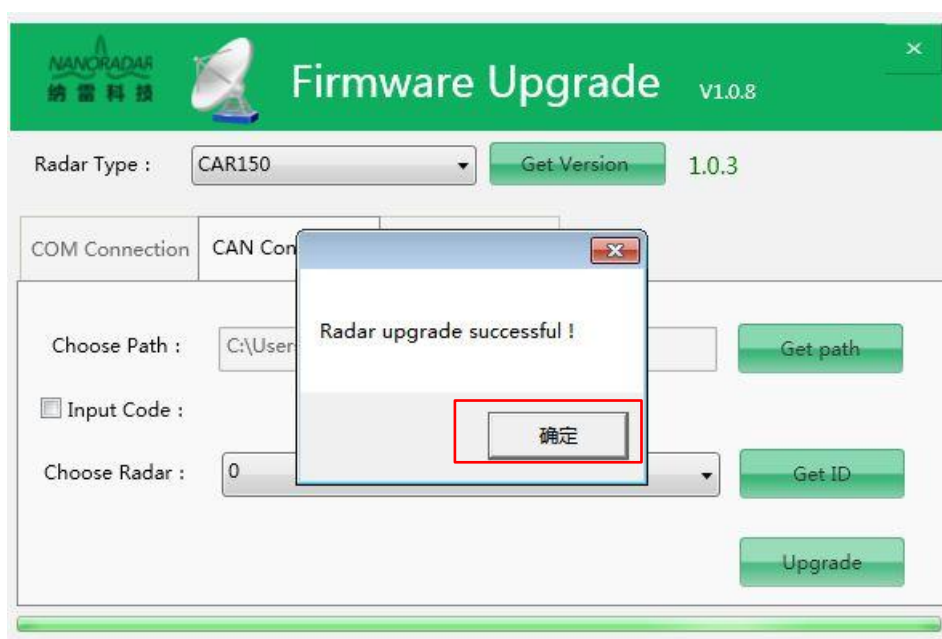

Figure 24 Upgrade successful
f) After dozens of seconds, it will pop up "Radar upgrade successful" window, click "Ensure " button, upgrade work is completed, as figure 24.